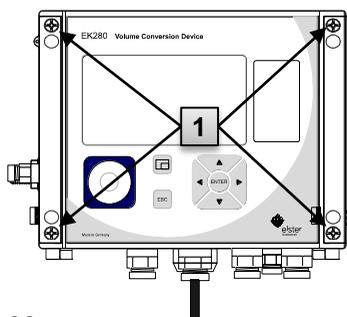

Fig. 22
1. Close the housing using the four screws provided (Fig. 22/1).